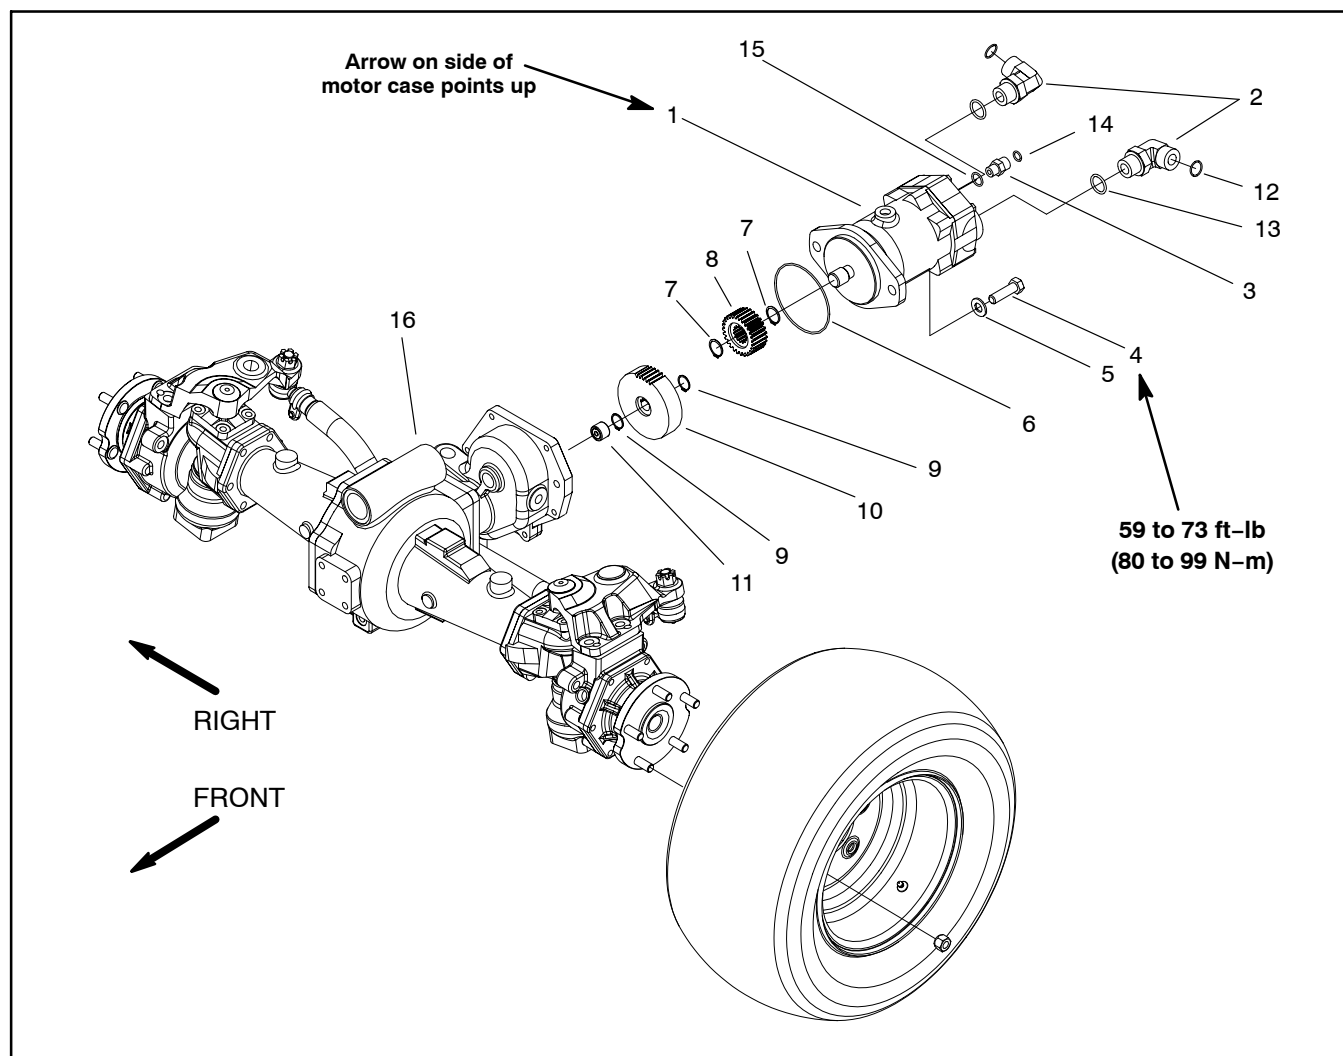

Figure 58
Removal (Fig. 58)
4. Remove motor using Figure 58 as a guide.
Installation (Fig. 58)